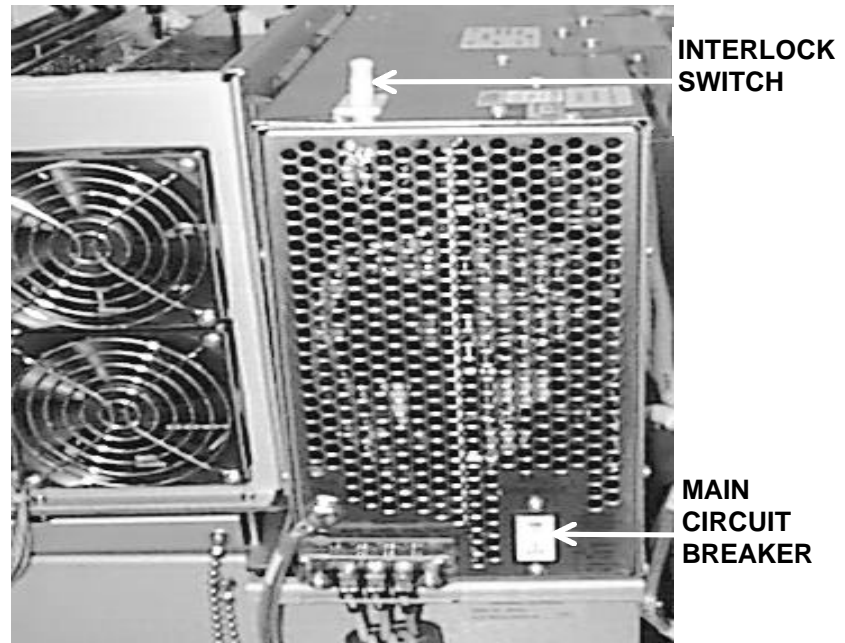

Figure 6-1. Set interlock switch to full UP position to power projector with rear cover removed.
If the projector has been operating, and the rear cover must be removed, be sure to set the power interlock switch (*see Figure 6-1*) to the UP position **immediately** and turn the projector back on with the remote. Then turn the projector power back off with the remote. This allows power to be re-applied to the fans to cool the arc lamp which remains very hot even after power is removed.
4. Replace the rear cover on the projector or set the power interlock switch, on top of the system power supply, to the full UP position (See *Figure 6-1*).